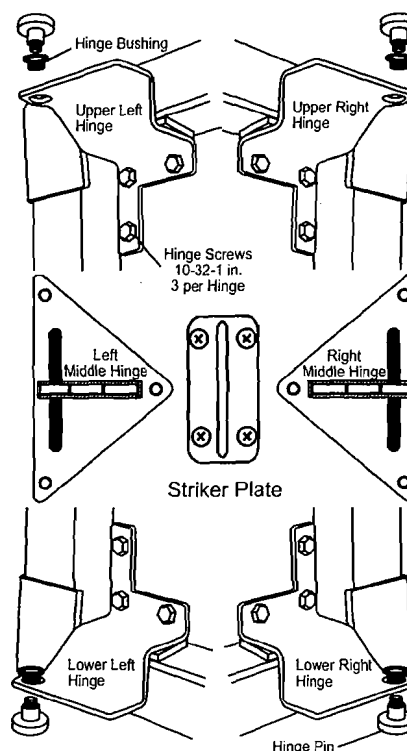

Figure 4. Hinge hardware.
11. Remove the freezer doors, then remove upper left and upper right cabinet hinges. See Figure 4.
13. Remove the lower left and right fresh food cabinet hinges. See Figure 4.
14. Remove the left and right middle hinge assemblies and striker plate. See Figure 4.